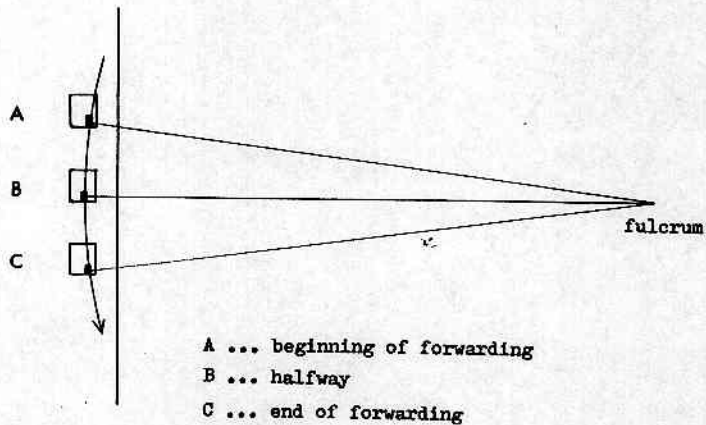

FIG. 8
Set a white leader film on the aperture plate. Whenever the claw tip just protrudes into the perforation, it shouldn't touch the perforation edge regardless a framing knob (Fig. 6-16) position. This is applied to both of forward and reverse projections. For this adjustment, shift the claw position with (15)x2 in Fig. 7-C. Refer to Fig. 8.